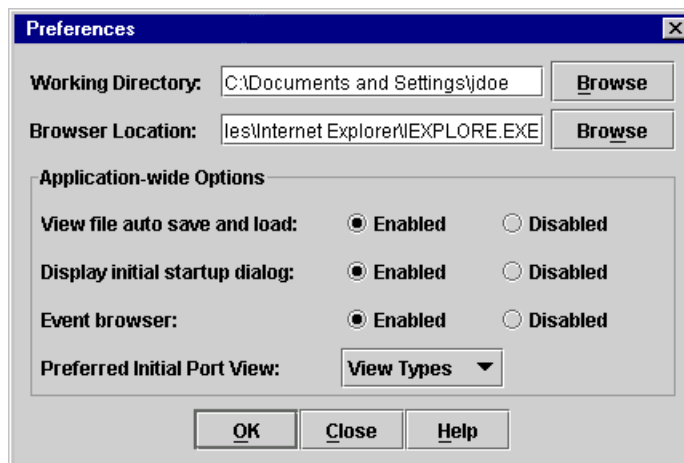

Figure 2-9. Preferences Window – SANsurfer Switch Manager
- Enable (default) or disable the Event Browser. Refer to “Displaying the Event Browser” on page 2-42. If the Event Browser is enabled using the Preferences window as shown in Figure 2-9, the next time SANsurfer Switch Manager is started, all events will be displayed. If the Event Browser is disabled when SANsurfer Switch Manager is started and later enabled, only those events from the time the Event Browser was enabled and forward will be displayed.